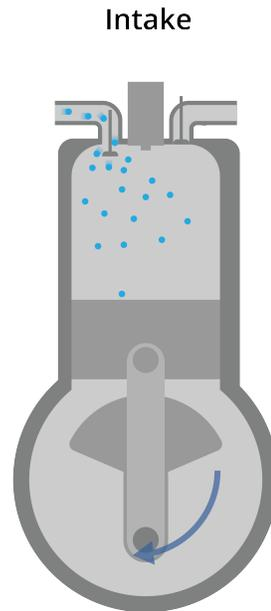

Figure 4.2: The intake stroke allows gas and oxygen into the combustion chamber.
- As the drive shaft turns, it pulls the piston down. The intake valve opens and lets the gas/air mixture into the combustion chamber. See Figure 4.2.